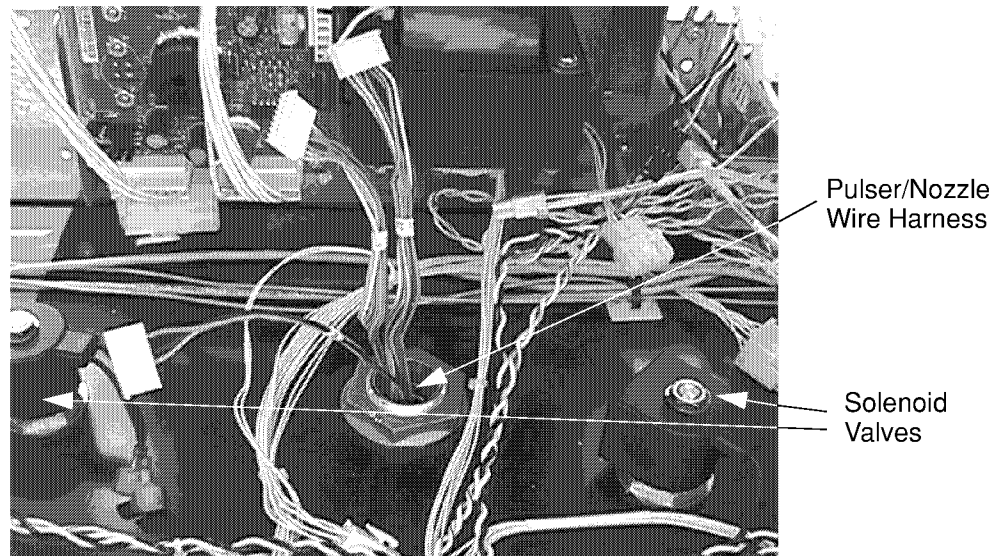

Figure 3-5 Pulser/Nozzle Wire Harness View From Side 1
7. Install the new pulser/nozzle switch harness PN 5-301176-HRN into the vapor barrier. See Figure 3-5. Reuse hardware that was removed earlier and ensure that a washer is used above and below the vapor barrier.